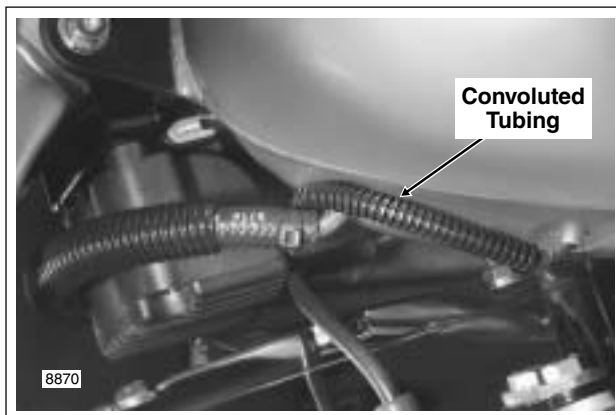

Figure 9-13. Fuel Gauge (FLHR/C/S)
12. Connect fuel gauge to main harness. Route pin housing and convoluted tubing forward and then inboard between front of crossover hose fitting and bottom of fuel tank. Mate pin and socket halves of fuel gauge connector [117], 4-place Multilock. Feed connector into tunnel of fuel tank. See Figure 9-13.
9. At bottom left side of fuel tank, gently pull on convoluted tubing to draw fuel gauge connector [117], 4-place Multilock, out of tunnel. Depress button on socket terminal side and pull apart pin and socket halves. See Figure 9-13.
11. Connect fuel gauge to main harness. Route pin housing and convoluted tubing forward and then inboard between front of crossover hose fitting and bottom of fuel tank. Mate pin and socket halves of fuel gauge connector [117], 4-place Multilock. Feed connector into tunnel of fuel tank. See Figure 9-13.